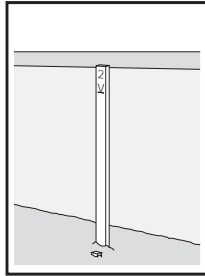

Figure 3-12. Mark Lath with Hike-up Height
1. Mark the lath with the desired “hike-up” above grade (Figure 3-12).